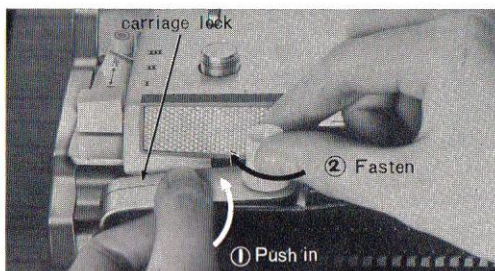

Fig. 2
3. Take out the carriage lock from the accessory box and lock the carriage on the left end of the needle bed. (See Fig.2)